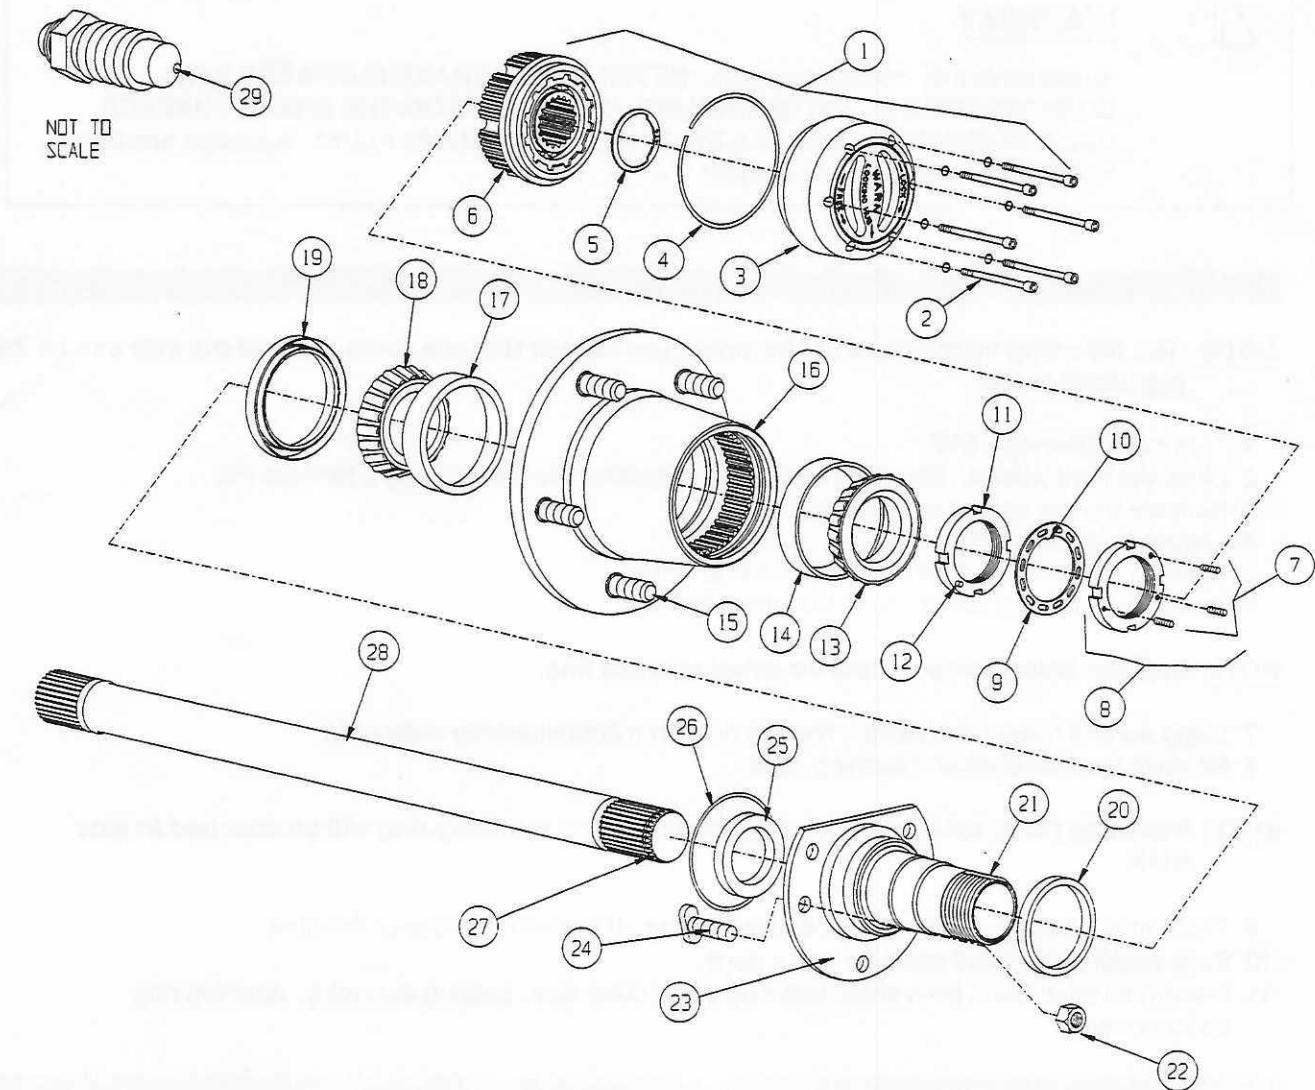

Figure 2. Full Floating Axle Kit.
This sheet provides guidelines to install the WARN Full Floating Axle Kit (Figure 2). There are **NOTES**, **CAUTIONS**, and **WARNINGS** which should be followed during installation to avoid possibility of personal injury or damage to the vehicle. During installation, standard safety precautions and equipment should be used where appropriate. Because the skill and experience of the installer and the tools used can vary widely, it is impossible to anticipate all conditions under which this installation is made or to provide cautions for all possible hazards. If your installation varies from the instruction, you must be completely satisfied that your safety or the operation of the vehicle will not be compromised.
PARTS LIST (Refer Item # to Figure 2)
2. Install V-seal on spindle with thick section inboard (Figure 2, Flag 20)
4. Thread inner nut (Figure 2, Flag 11) on spindle.
NOTE: Pin on nut should face outboard (Figure 2, Flag 12).
NOTE: Align tab on washer with spindle keyway (Figure 2, Flags 10 and 21).
NOTE: Pin on inner nut must fit into a slot on washer. If it doesn't, flip washer over and reinstall (Figure 2, Flags 12 and 9).
NOTE: Socket heads on set screws should face outboard (Figure 2, Flag 7).
1. Separate body assembly from cap assembly (Figure 2, Flags 6 and 3).
2. Install body assembly (Figure 2, Flag 6) on axle shaft.